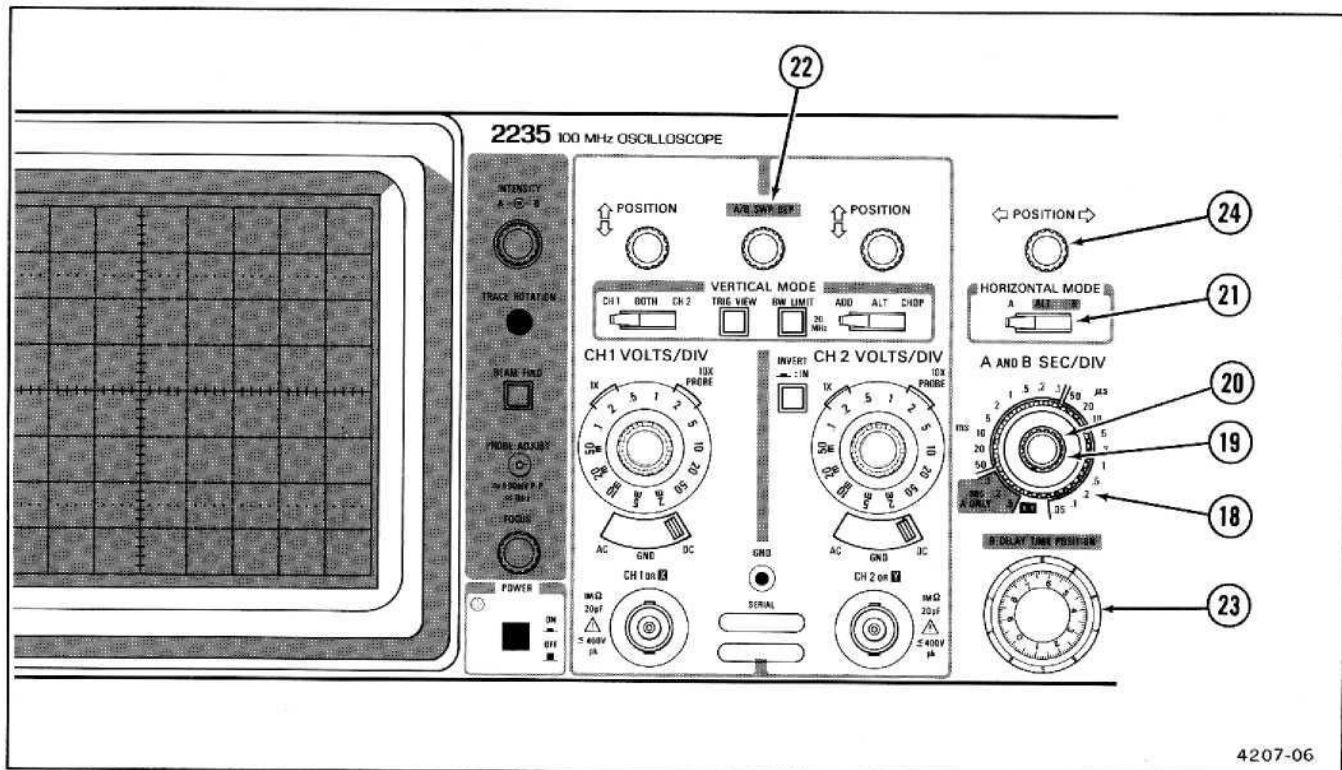

Figure 2-5. Horizontal controls.
Refer to Figure 2-5 for location of items 18 through 24.
- ⑱ A and B SEC/DIV Switches—Used to select the sweep speeds for the A and B Sweep Generator in a 1-2-5 sequence. To obtain calibrated sweep speeds, the A and B SEC/DIV Variable control must be in the calibrated detent (fully clockwise).